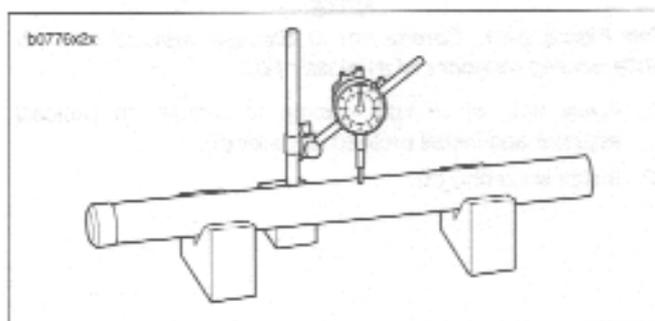

Figure 2-62. Pipe Runout
3. Check the slide bushing (21) and the guide bushing (22) for excessive wear or scratches. Replace if damaged or worn.
4. Replace the stopper ring (19) if distorted.
5. Measure spring (16) free length. Replace springs shorter than service wear limit of 9.13 in. (232 mm).
6. See Figure 2-62. Measure slide pipe runout. Replace pipe if runout exceeds the service wear limit of 0.008 in. (0.2 mm).